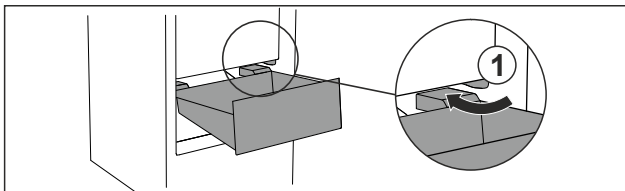

Fig. 137
- ▶ Guide drawer in at an angle around the stoppers Fig. 137 (1).